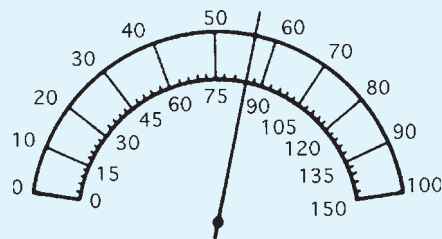

Figure 10.40
5. Fig. 10.40 shows a scale of a multi-range ammeter. What is the current indicated when switched to a 25 A scale?